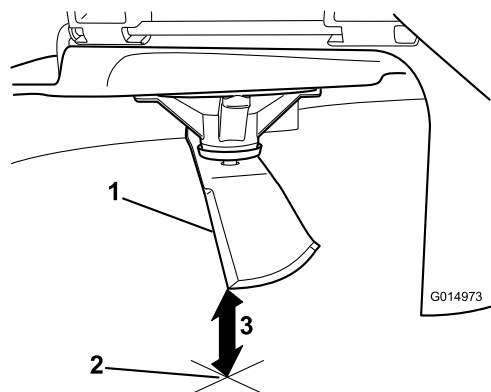

Figure 81
5. Measure from the tip of the blade to the flat surface (Figure 81).